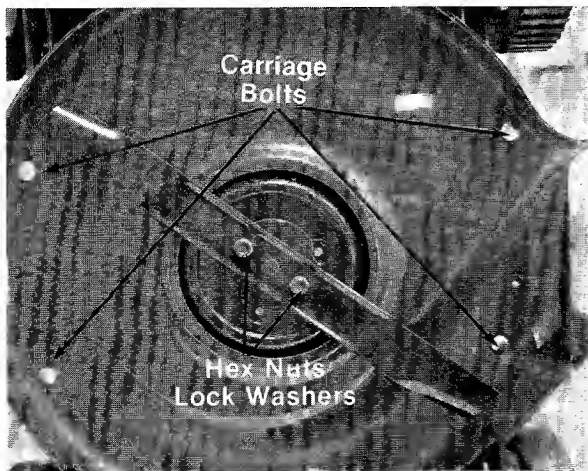

FIGURE 18.
3. Remove the two hex nuts and lock washers on the blade. Remove the blade from the blade brake/clutch. See figure 18.
4. Remove the four carriage bolts holding the lower deck to the frame. See figure 18.